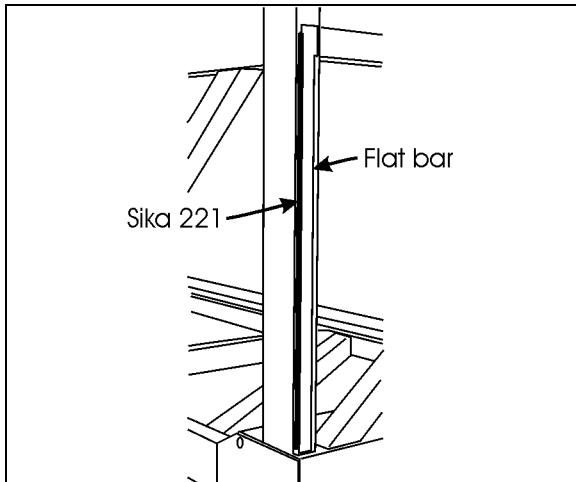

FIGURE 44 : SIDE PANEL INSTALLATION – SIKA 221 APPLICATION ON STRUCTURE
4. Inspect the Sika bead at the intersection of the corner vertical member and the flat bar as shown in FIGURE 44. If it is damaged, remove adhesive residue and apply a new 3mm diameter bead of Sika 221;